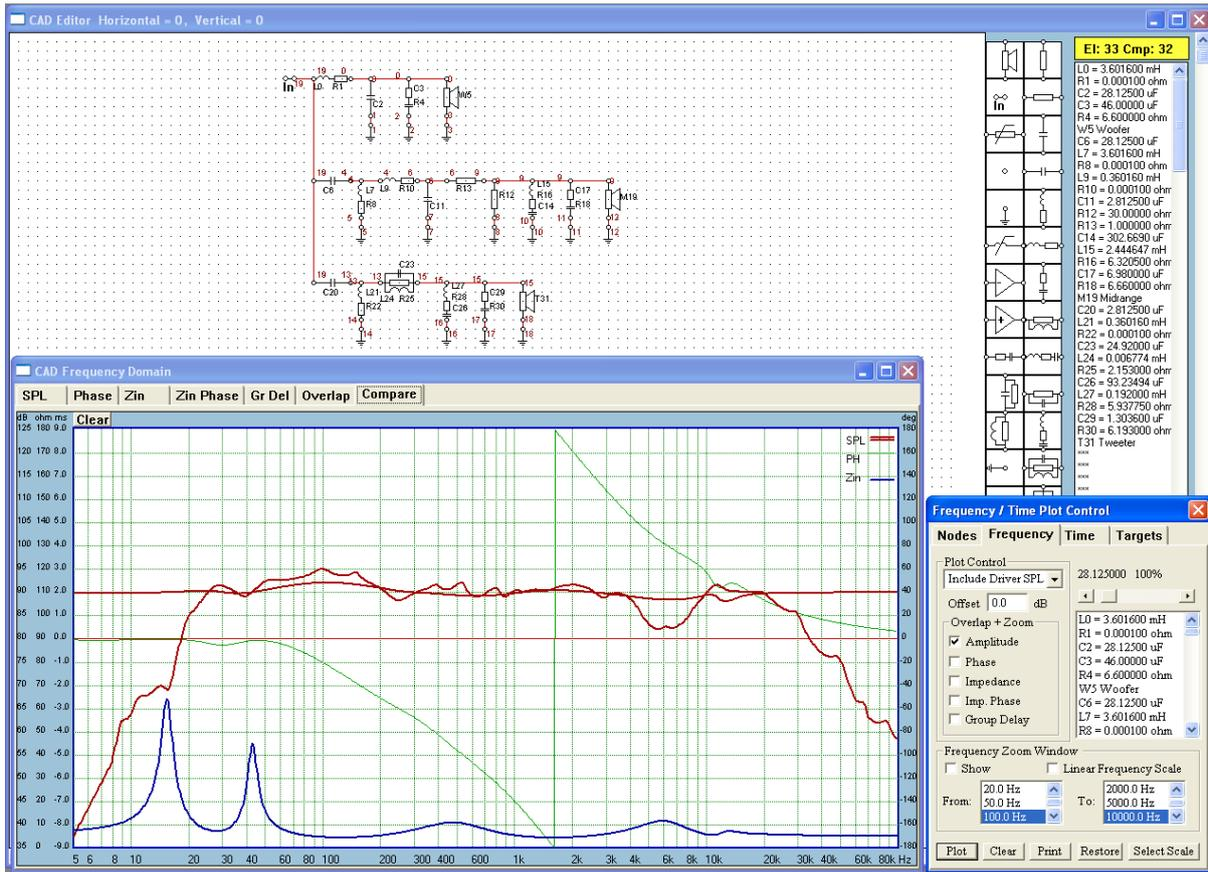
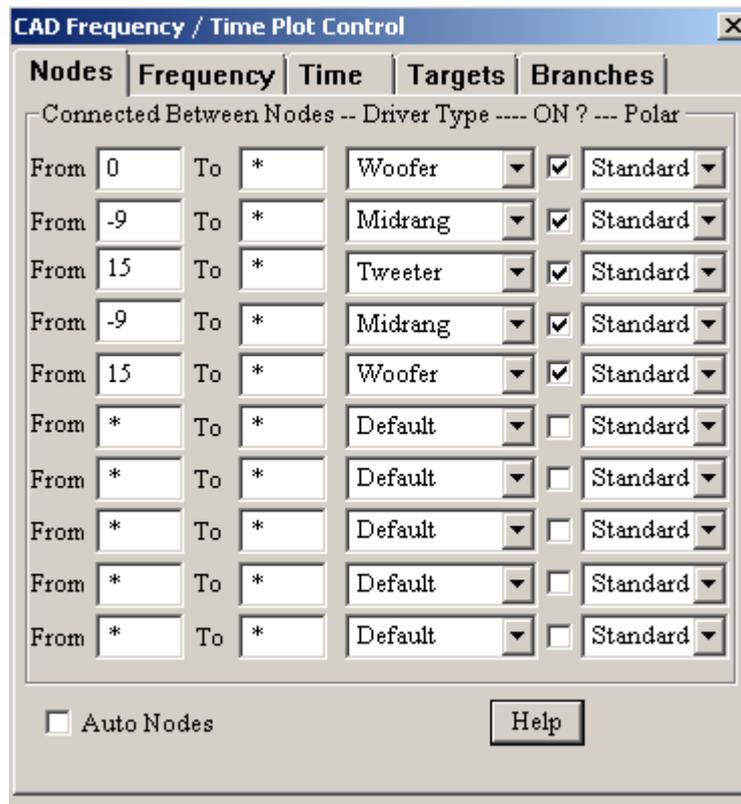

Fig 9.12 Complete 3-way crossover
Figure 9.14. Example of node assignment for WMTMW configuration.
At the beginning of the design process it is often acceptable to create a “first cut” design, to check if basic ideas are feasible. To facilitate this concept, we have incorporated in the Crossover module a functionality, that allows you to create medium complexity, 5-way crossover and compensation network on one screen. The process is really no different from a single channel filter and you would proceed with the schematic as described before. An example of 3-way crossover is shown on Figure 9.12. You can plot frequency response of each individual channel or a summed response of up to 5 channels. This process is controlled from the dialogue box invoked just prior plotting. Additionally, you can load up to 5 driver files and include their frequency responses and input impedances for evaluating the complete system.
2. Create complete crossover and compensation network on one screen using CAD techniques described before. Your schematic should include loudspeaker symbols. We suggest, you save the schematic now – see Fig 9.12 or 9.13.
3. Assign driver type to each loudspeaker symbol. To accomplish this, double-click LEFT mouse button on each loudspeaker symbol. A selection box will be opened for you to choose on of the 5 available driver types. You can now select (enter a number 1 for woofer,5 for super tweeter) which driver is assigned to this symbol. Repeat the above for all drivers. This process assigns driver's input impedance to this particular schematic element (loudspeaker symbol) – see Fig 9.12 or 9.13.
4. Plotting control dialogue box (Fig 9.14) also contains additional fields for assigning drivers to nodes. Now, you need to **assign driver's frequency response to a particular node and this is accomplished by selecting driver's name from the associated list box.** An example of this process is shown Figure 9.12, where a 3-way crossover is developed.
Figure 9.14 shows correctly filled data fields in the plotting control dialogue box. You can observe, that system frequency response will be plotted using the following formula (midrange driver is connected "out of phase"):
Also, Node 1 has woofer driver assigned to it (woofer selected in the associated data field). Node 9 has midrange driver assigned to it (midrange selected entered in the associated data field) and Node 15 has tweeter driver assigned to it (tweeter selected entered in the associated data field). **Figure 9.15 shows frequency response of each individual driver + filter and also total system frequency response. Switching ON/OFF of the individual channels is accomplished by inserting * (asterisk) instead of node number in the dialogue box shown on Fig 9.14.**
Figure 9.15 shows frequency response of each individual driver + filter and also total system frequency response of the system on Figure 9.12.